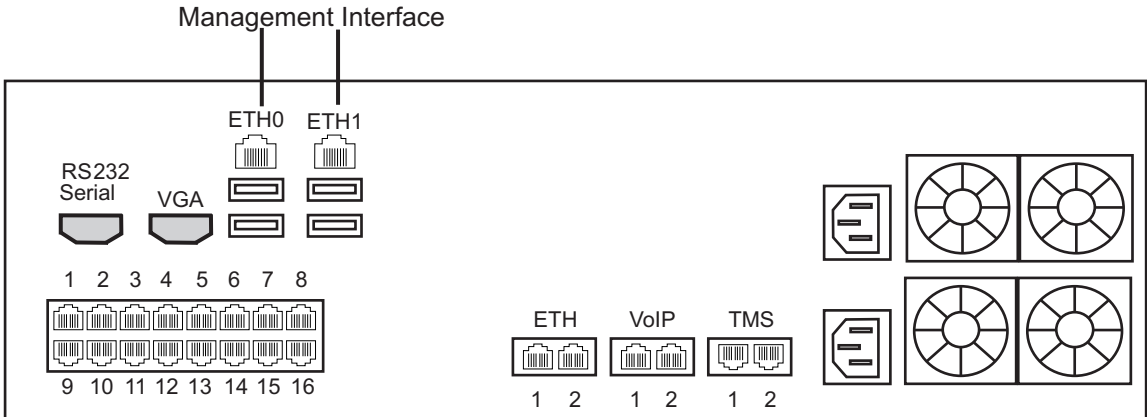

Figure 2.2 Tmedia Management Interface
The TMG5800 provides a Tmedia Management Interface, using one Gigabit Ethernet network link, as shown in figure 2.2 on page 9.
1. Connect the supplied CAT5 Ethernet cable to one of the upper ethernet ports located at the rear of the TMG5800, and shown in figure 2.2 on page 9.